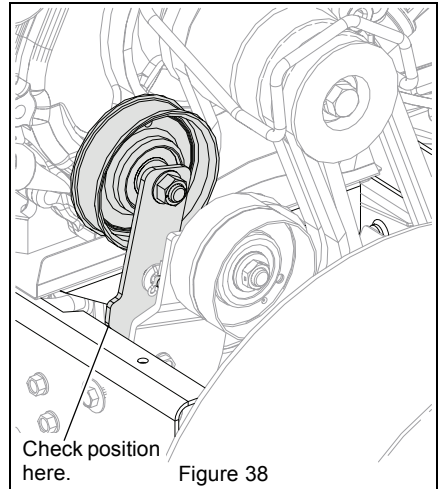

Figure 38
5. With the traction clutch disengaged, make sure auger idler arm lightly touches the frame. See Figure 38.